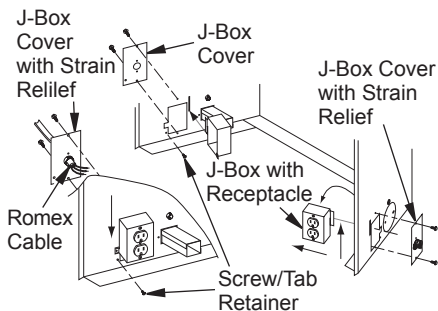

Figure 13 - Relocating Junction Box Receptacle and Electrical Supply Connection
1. Remove 2 screws and outer cover with strain relief bushing on right side of cabinet (see Figure 13).
8. With junction box cover removed, pull end of 3-wire Romex supply line through universal strain relief bushing on cover. (see Figure 13).